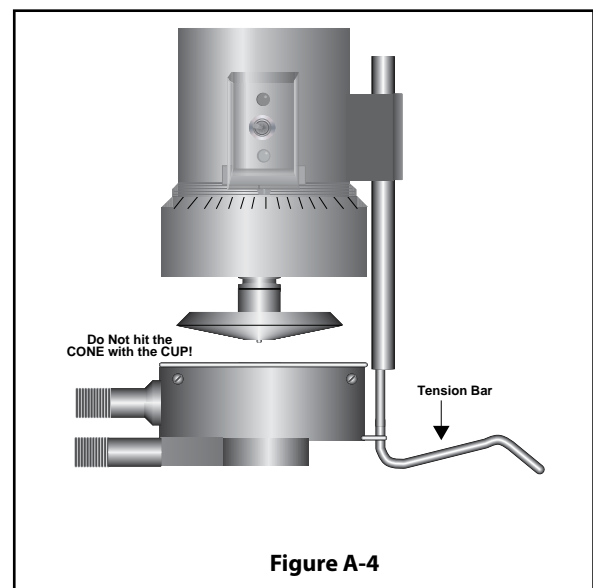

Figure A-4
5. Attach the cup, taking care not to hit the cone with the cup (**Figure A-4**), by positioning the cup against the mic ring and swinging the tension bar under the cup. The tension bar should have plastic tubing in place.